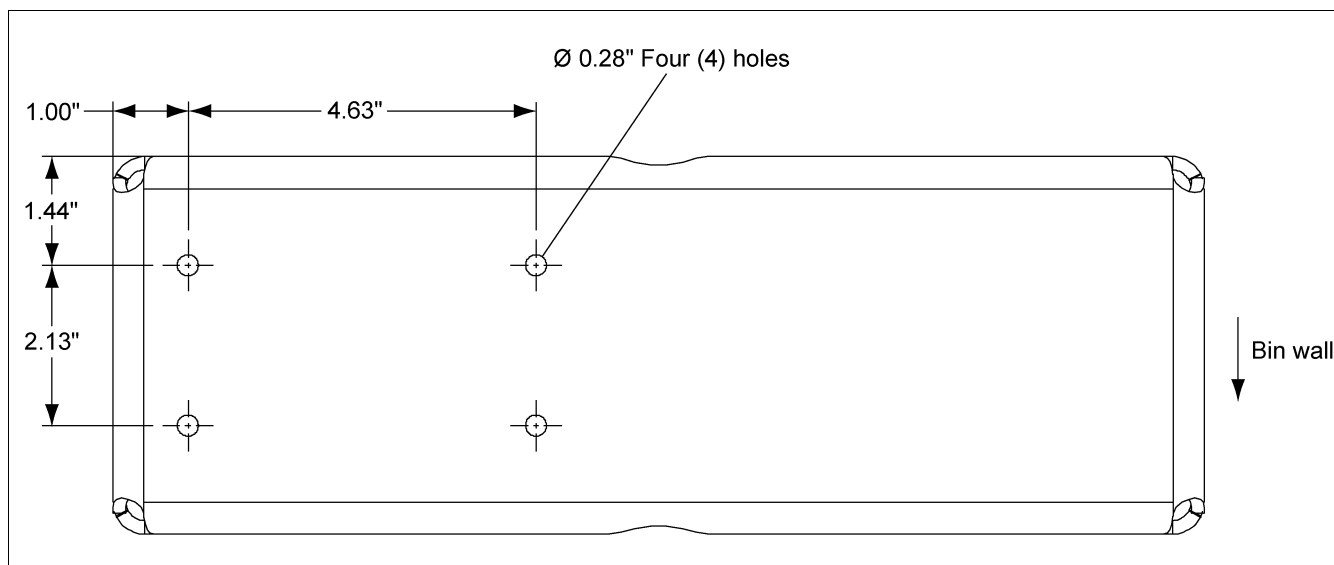

Figure 2 Drilled Hole Layout
2. Layout and drill four (4) 9/32" diameter holes in the top surface of the outboard end pivot yoke (right hand side near the tilt switch mounting bracket) to mount the electronic controller enclosure assembly. Use the dimensions shown in Figure 2 or use the controller enclosure assembly as a template.